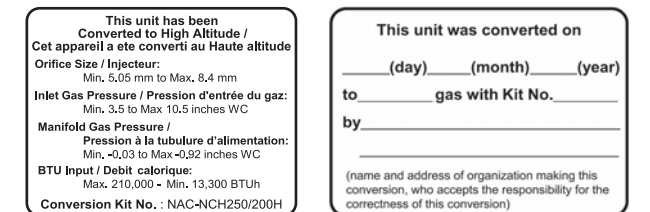

Figure 10. Proper Placement of High Altitude Conversion Labels
- Once the CO2 or offset values have been confirmed, apply the included conversion stickers to show that the appliance has been converted to High Altitude. Place these labels adjacent to the rating plate as shown in Figure 10.